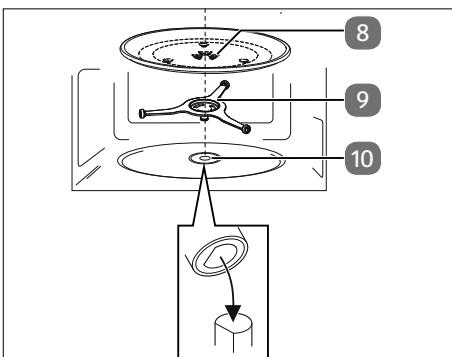

Fig. 5 – Inserting the glass turntable
- ▶ Then place the glass turntable in the centre of the drive shaft (see Fig. 5) so that the bars of the glass turntable lie in the recesses on the drive coupling star.